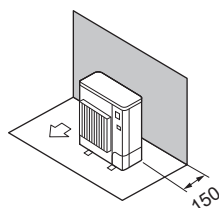

Fig. 2-7
(1) Kun forhindringer bagved (Fig. 2-7)